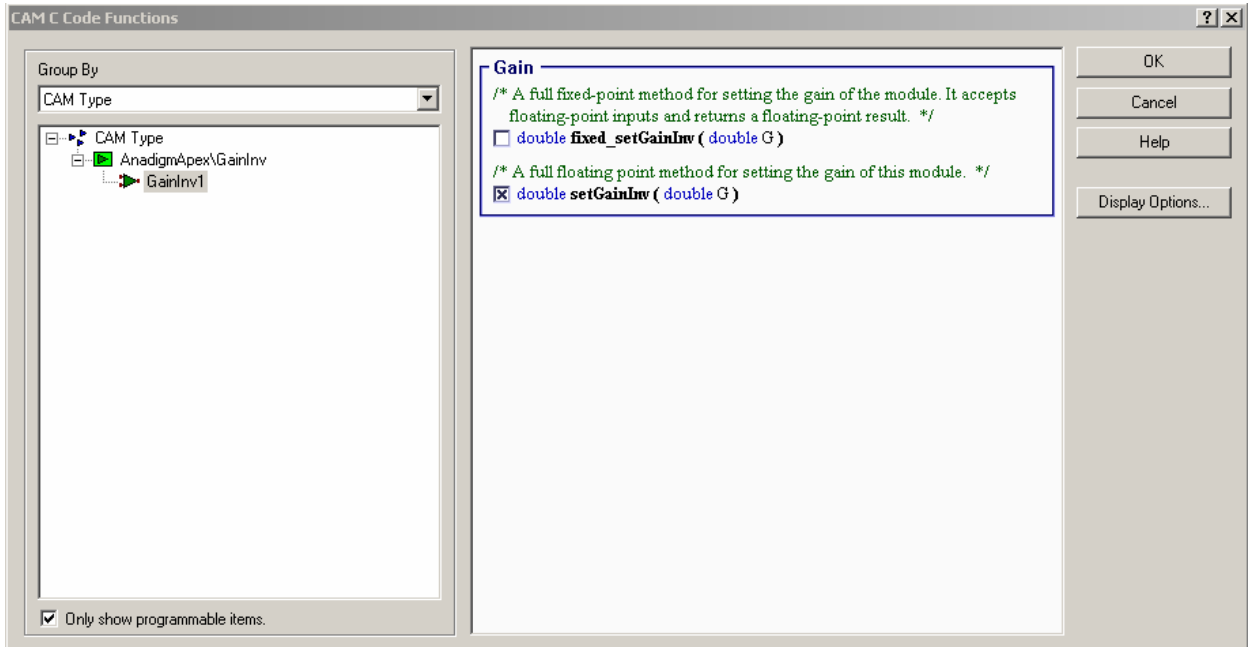

Figure 6: Selecting the CAM functions
- Click on CAM Functions... to get the window shown in figure 6. Expand the CAM tree on the left to show all of the programmable CAMs and cells. Click on each one in turn and check the box on the right for each function that is required, and uncheck the box for functions that are not required. Note that all functions are selected by default and the DLL will still work if all functions are left selected. The only reason for deselecting functions that are not required is to reduce the amount of C-code generated by AD2.